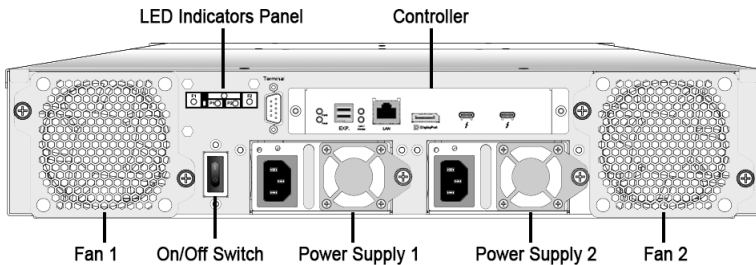

Figure 2-2. ARC-8050T3-12R Rackmount Rear View
There are a variety of status conditions that cause the RAID storage panel monitoring LED to light. The front panel LCD comes with three (3) status-indicating LEDs. The LEDs on the front panel are defined, from top to bottom, Power, Busy, and Caution, as shown in Figure 2-2.